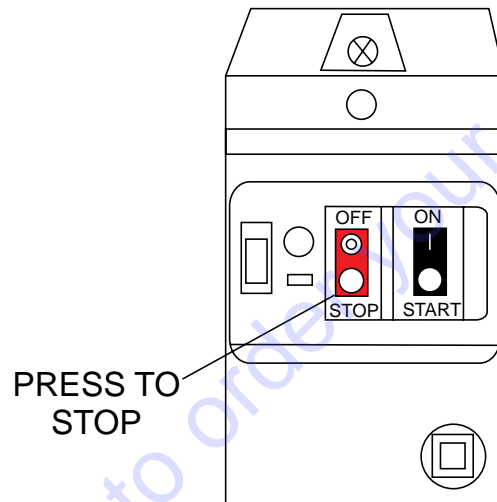

Figure 25. Electric Motor On/OFF Switch (Stop)
- To stop the electric motor, press the red OFF/STOP switch (Figure 25).